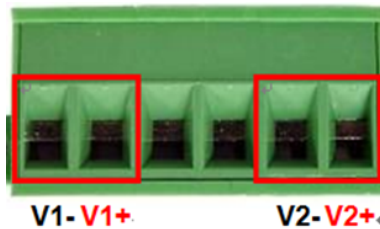

Figure 2.4 - Power Terminal Block
1. Insert the positive and negative wires into the PWR1 (V1+, V1-) and PWR2 (V2+, V2-) contacts on the terminal block connector as shown below in *Figure 2.4*.